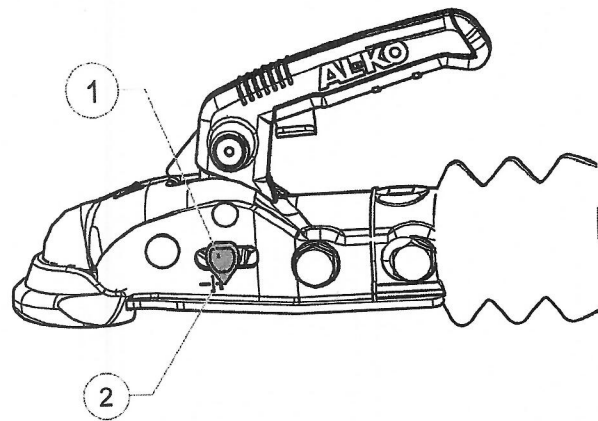

Figure 22 - Tow hitch wear indicator
10. Check that the wear indicator (1, Figure 22) is on the positive side of the limit mark (2, Figure 22).